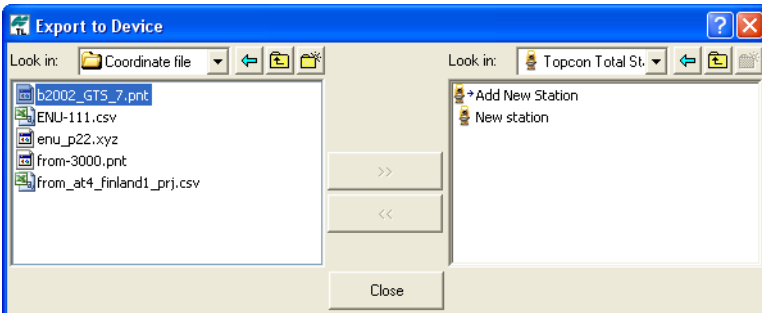

Figure E-5. Add New Station
4. In the right panel, select “Topcon Total Station” from the Look in drop-down list. Click **Add New Station** in the right panel (Figure E-5).